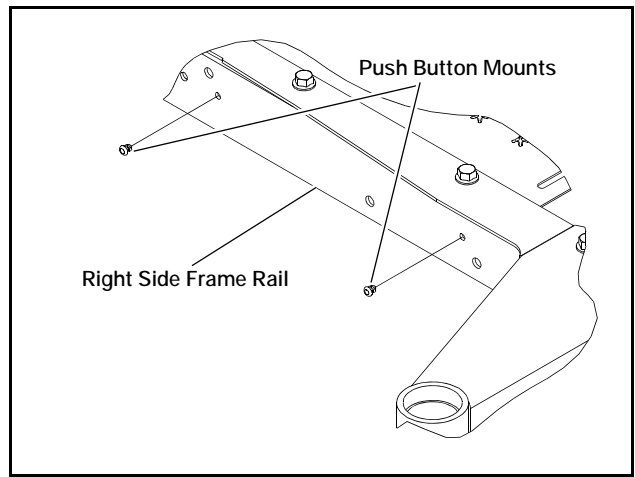

FIG. 8
11. Install the push button mounts in the right side frame rail of the mower. (FIG. 8)